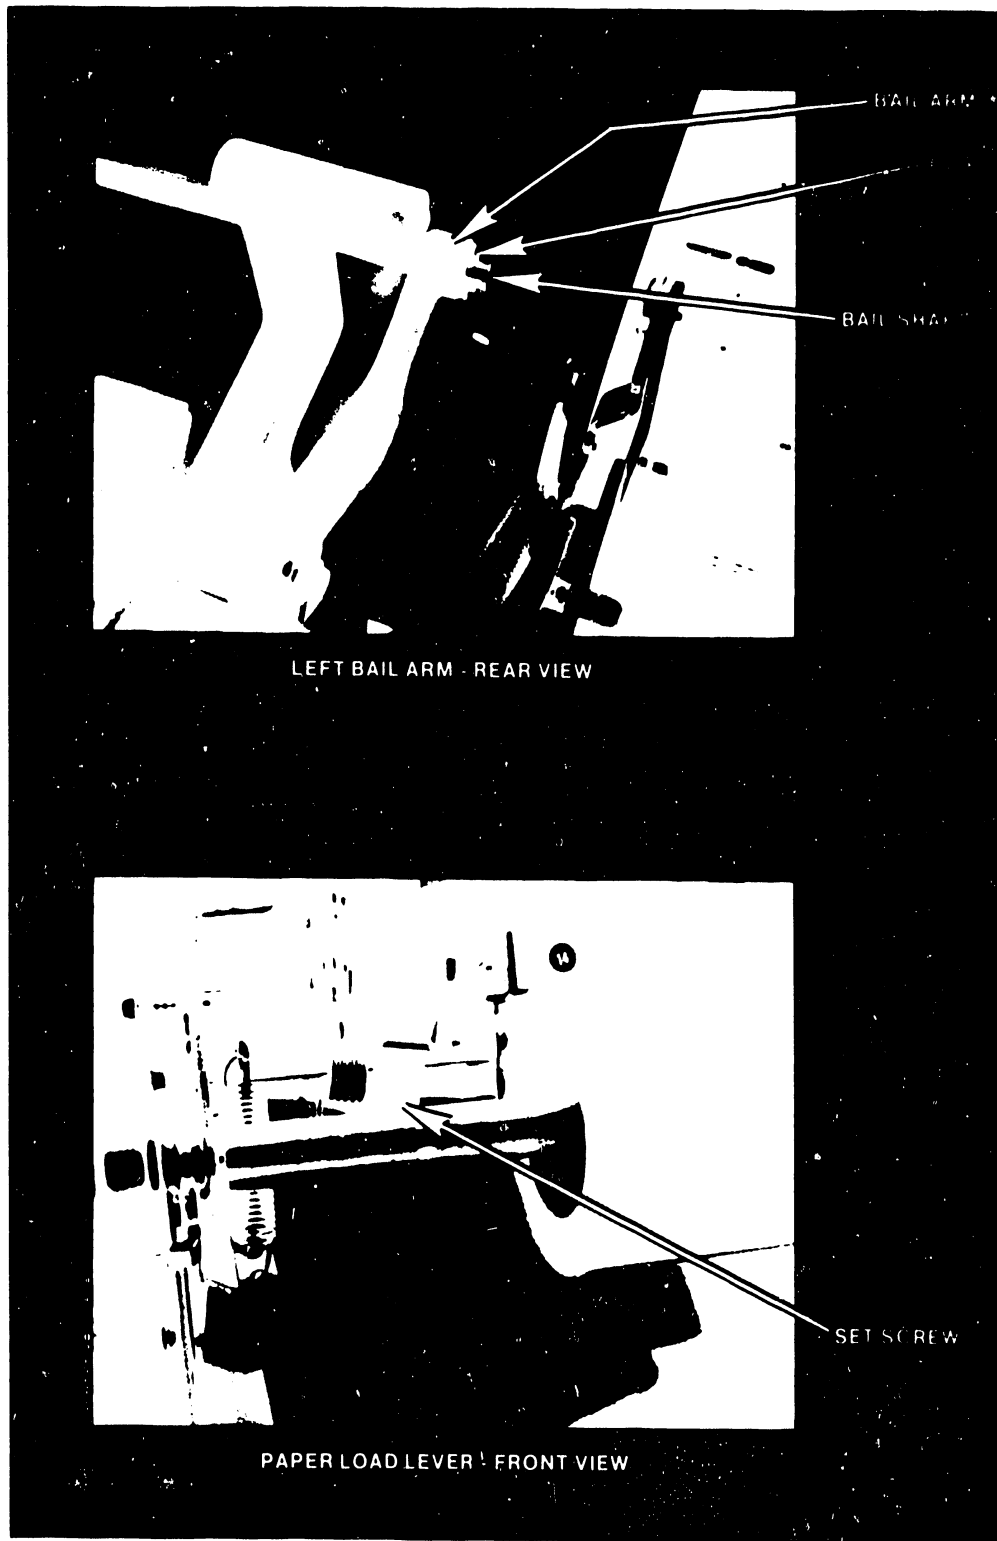

FIGURE 3 INSTALLATION OF ROLLER ASSEMBLY
3. Install paper bail roller assembly on printer assembly as follows (see Figure 3):